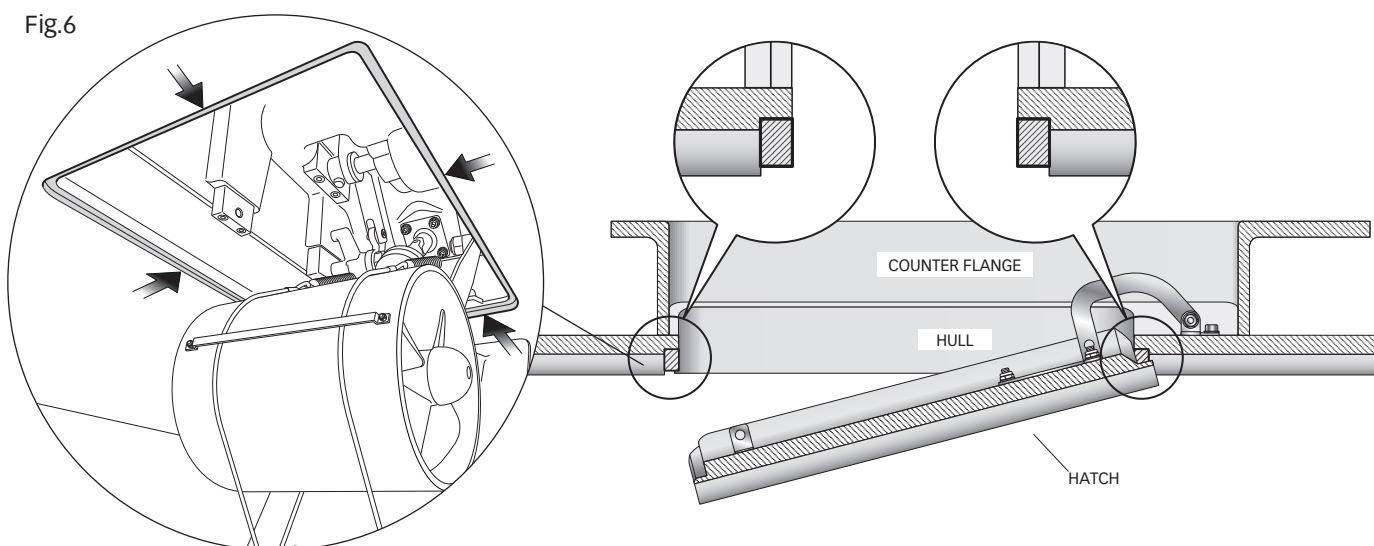

Fig.5
- Align the counter flange with the opening of the hull and **check that the 4 heights indicated in fig.B page 9** are correct. Apply resin to the counter flange or weld it, in the case of aluminium or steel, according to the techniques identified as the most suitable for the type of hull construction (fig. 5).